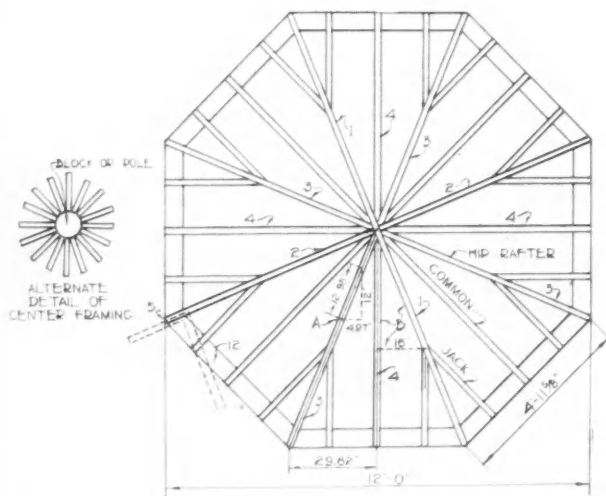

Fig. 36. Plan of Octagon Roof Solved in this Lesson.
**I**N our last discussion we compared the square, hexagon and octagon roof in plan. We will now take a more definite problem and show how each part of the octagon roof is figured and cut. The roof illustrated by plan and isometric view in Figs. 36 and 37 will be used as a problem. This roof is 12 feet 0 inch wide and 4 feet 0 inch high. This gives the common rafter a run of 6 feet and a rise of 4 feet 0 inch in 6 feet 0 inch or 8 feet per foot. The pitch is the rise over the span =  $\frac{4}{12} = \frac{1}{3}$ . Our first problem is to find the length and cut for the plate.
In Fig. 36 at A we show a small triangle, one side of which is equal to 1 foot or 12 inches of run of the common rafter. We note that the side that is parallel to the plate is 4.97 inches long and that the length corresponding to the run of the hip is 12.98 inches long. As we learned in our last discussion, the line perpendicular to the run of the common rafter is called the tangent. For every foot of run we have 4.97 inches, length of tangent. The total run in this case is 6 feet. Therefore the tangent is  $6 \times 4.97 = 29.82$  inches. The length of the plate of each side is two times this =  $2 \times 29.82$  inches = 59.64 inches = 4 feet 11 $\frac{5}{8}$  inches.
The joint at the corner of the plate is parallel to the run of the hip rafter. Therefore the triangle which is described by the run of the common rafter, the plate and the run of the hip rafter, also describes the cut for the plate. This would be laid out by using 12 on the blade and 4.97 or 5 on the tongue of the square. See Fig. 36.
In Fig. 36, at the left-hand side, we illustrate how the framing at the center may be simplified. A big block or pole from 6 to 8 inches in diameter is used at the peak of the roof to which all the rafters frame. By using this block the side cuts on the rafters are avoided. This simplifies the framing.